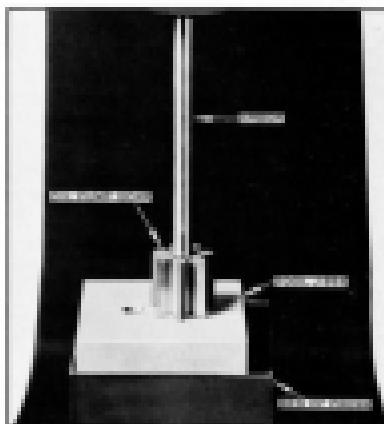

Fig. 202. Inserting Pump Shaft into Pump Cover
1. Place pump gear on flat surface and, with Woodruff key in pump shaft, press shaft through gear, bush and outer end of gear (Fig. 202).